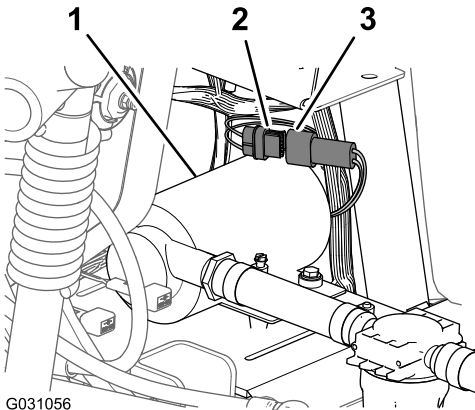

Figure 238
1. Connect the 6-pin connector of the rinse-pump harness from the 6-socket connector of the rear, main harness (Figure 238).